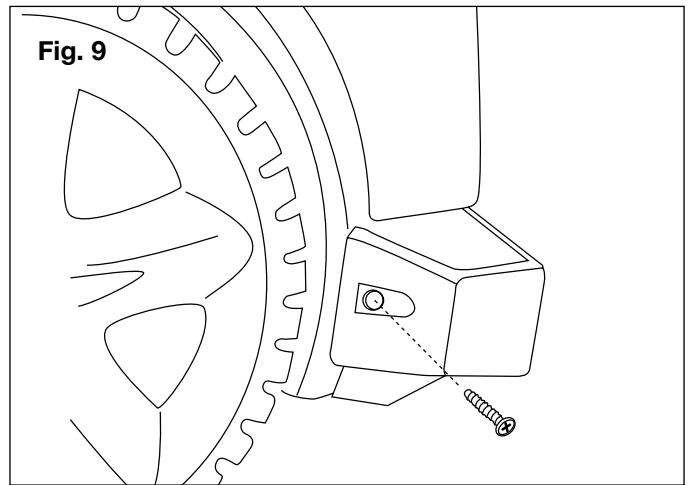

**Fig. 7**
6. Connect the PVC detergent tube to the detergent connection (Fig. 7).